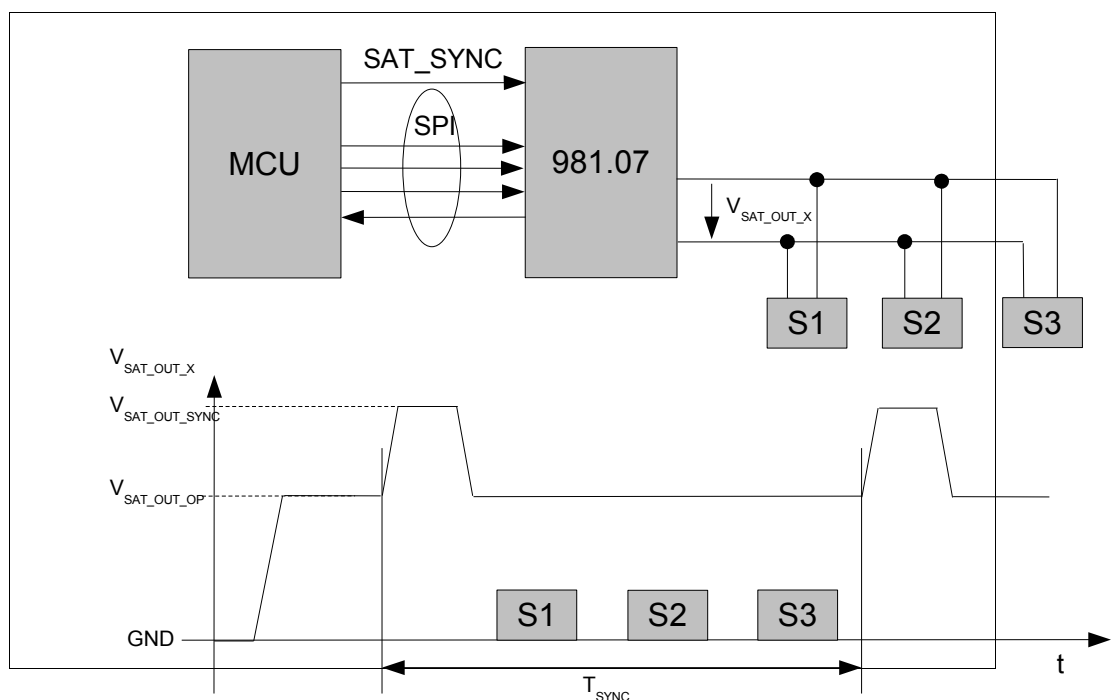
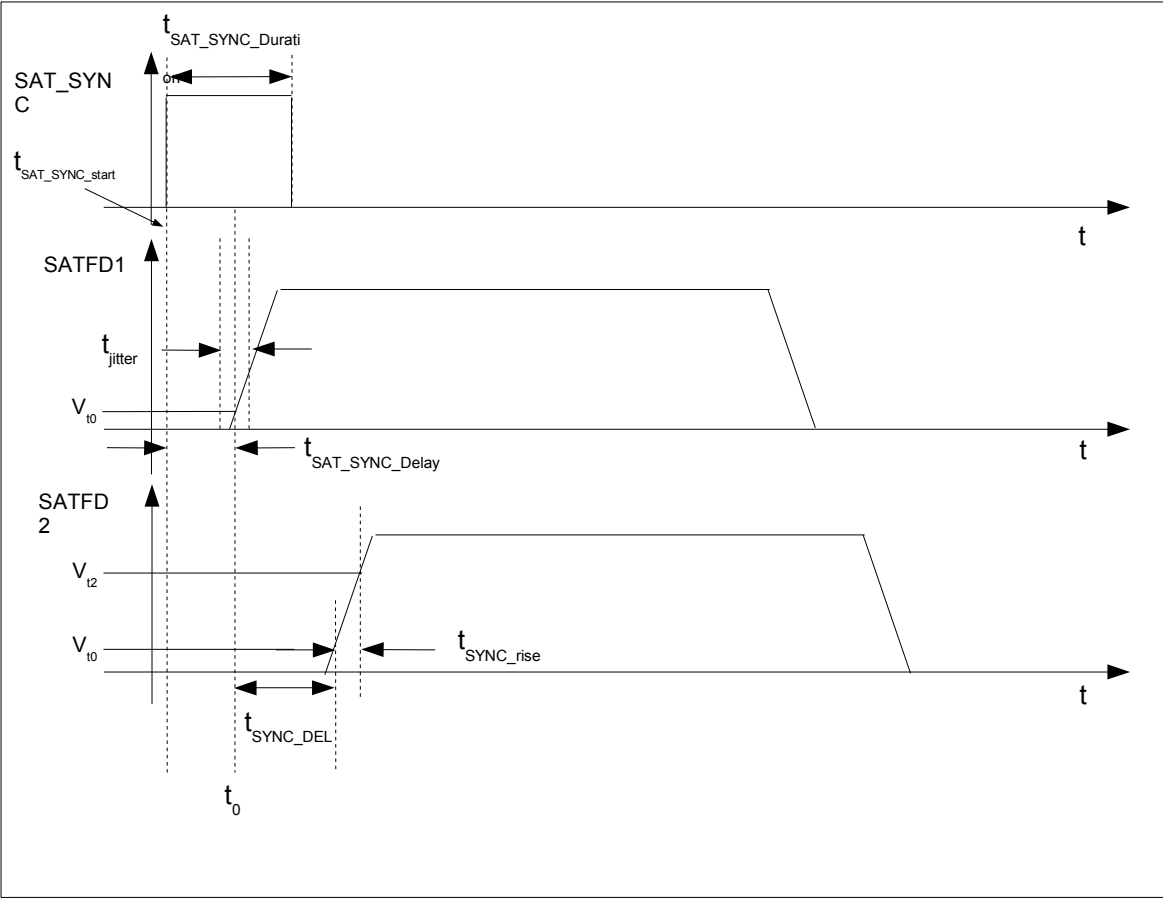
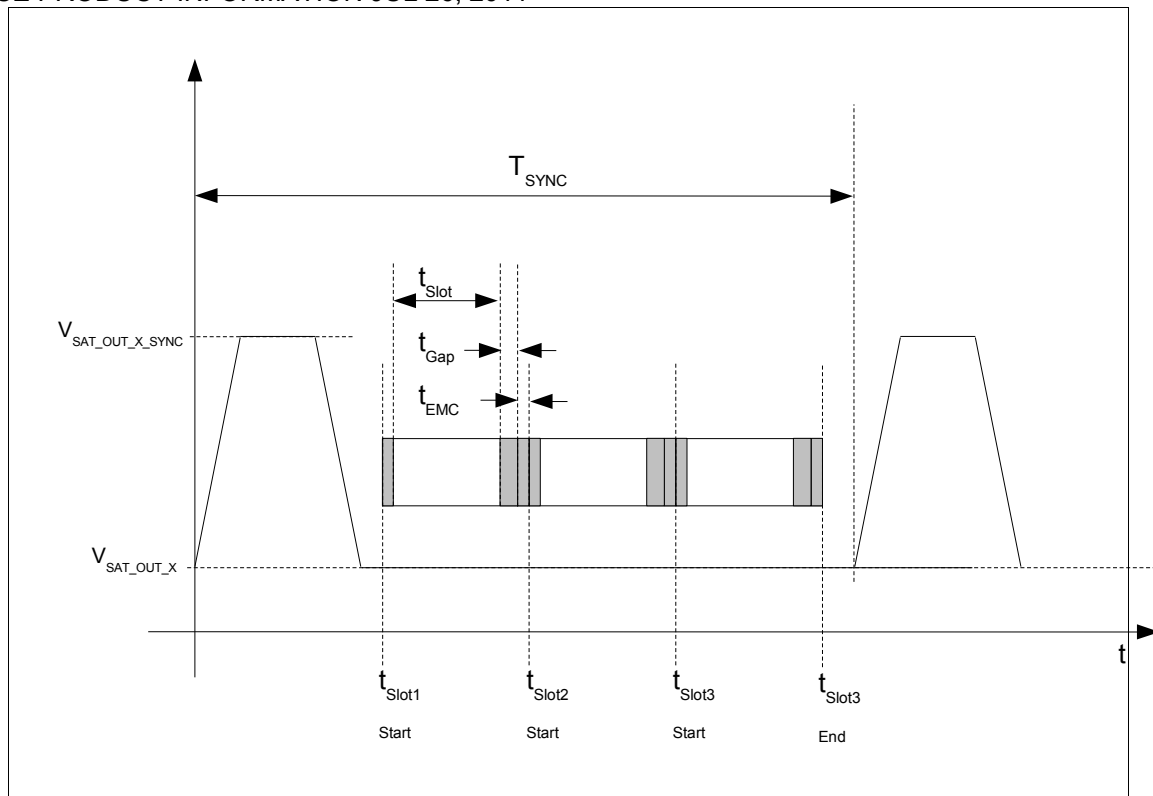

Figure 5.1-4 Synchronous Parallel Bus Mode Configuration (PSI5-P10P-500/3L)
Figure 5.1-5 Satellite Synchronisation Pulses
Figure 5.1-6 Timing for Synchronous Parallel Bus Mode (PSI5-P10P-500/3L)
① The parameter $t_{SAT_Sync_Delay}$ will be measured from the rising edge of the SAT_SYNC signal ($t_{SAT_Sync_start}$) until the voltage at SATFDX is equal V_{t0} ($V_{t0}=VSATFDX+0.5V$). See figures 5.1-4 and 5.1-6 .
② Not tested in production
③ T_{CLK} = 250 ns plus external clock tolerance
Measurement condition: $(V_{SAT_OUT_X}(@Vt2=3.5V) - V_{SAT_OUT_X}(@Vt0=0.5)) / (t2-t0)$ See Figure 5.1-4
In parallel bus mode application, the sensors are connected in parallel to the bus line like shown in Figure 5.1-4. It is possible to connect up to three sensor to each channel of the 981.07. The sync cycle time is 500 μ s with a data transmission rate of 125kbit/s. The synchronisation pulse for the satellite channel feeds SATFD1-SATFD2 can be activated by MCU via the SAT_SYNC pin of the device. When a rising edge is detected, the 981.07 outputs sync pulses on channels SATFD1-SATFD2 in sequence to reduce the average current inrush to the satellites as shown in Figure 5.1-5. The satellites can transmit from one to three messages per sync pulse received. The Figure 5.1-6 shows the timing for one channel.